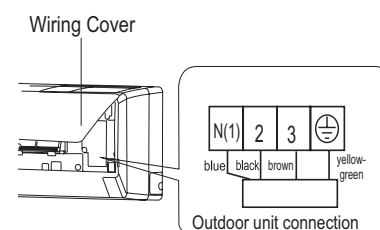

Fig.2
2. Remove the wiring cover. Connect and fix power connection cord to the terminal board as shown in Fig.2.